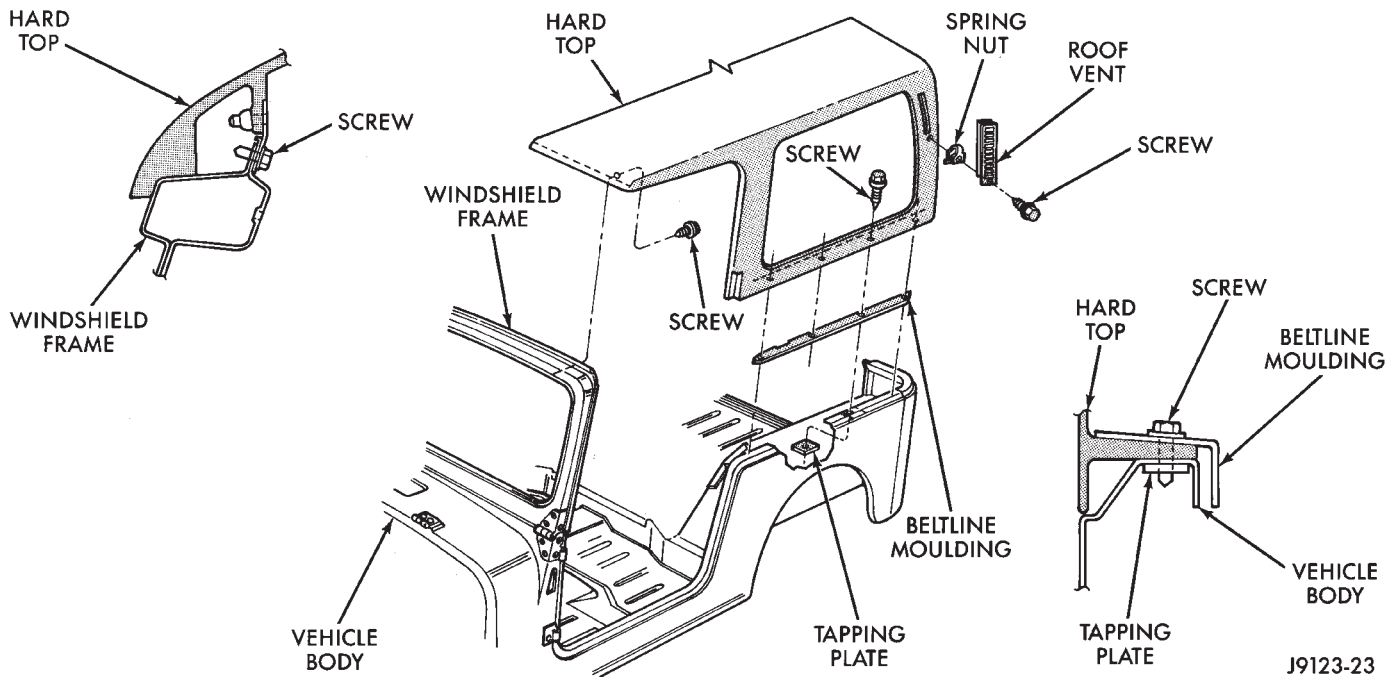

Fig. 92 Hard Top Removal/Installation
(1) Remove the screws that attach the hard top to the windshield frame (Figs. 92 and 93).
(2) Remove the screws that attach the hard top to the rear beltline mouldings, body panels and tapping plates (Figs. 92 and 94).
(4) Remove the beltline mouldings and the hard top from the vehicle (Fig. 92).
(1) Inspect the hard top seals for damage and replace, if necessary.
(2) Carefully position the hard top on the vehicle (Fig. 92).
(3) Position the beltline moulding on the hard top flange and install the screws (Figs. 92 and 94). Tighten the screws securely.
(5) Install the screws to attach the hard top to the windshield frame (Figs. 92 and 93). Tighten the screws securely.
(1) Remove the roof vent retaining screw from the spring nut (Fig. 92).
(2) Remove the roof vent from the hard top (Fig. 92).
(3) Position the roof vent on the hard top and install the retaining screw (Fig. 92).